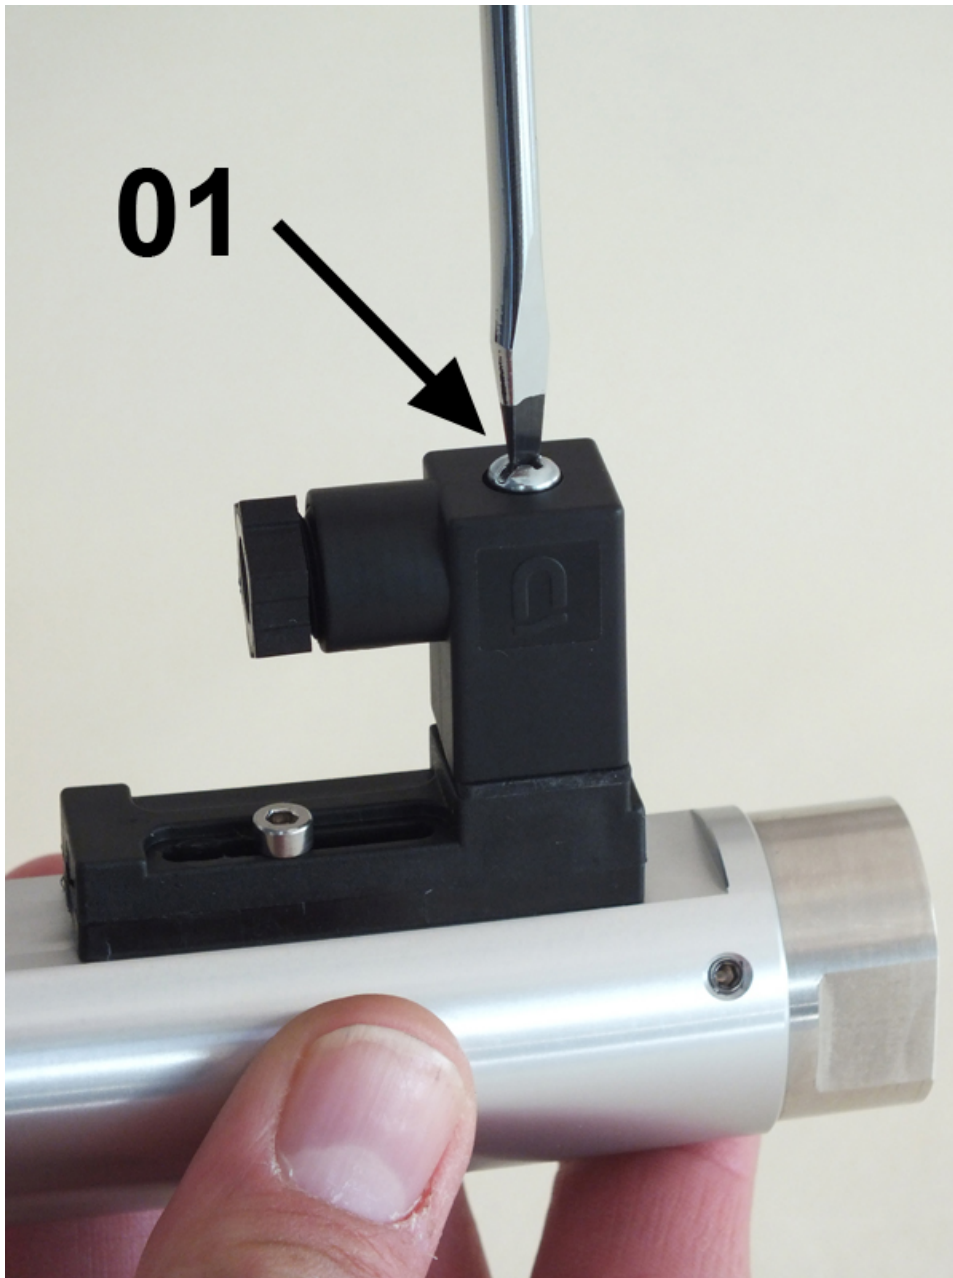

Fig. 21: Detach socket
- 1.** ➤ Release the fixing screw (*Fig. 21/01*) from the socket.
- 9.** ➤ Plug the socket onto the connector plug and tighten the fixing screw (*Fig. 21/01*)